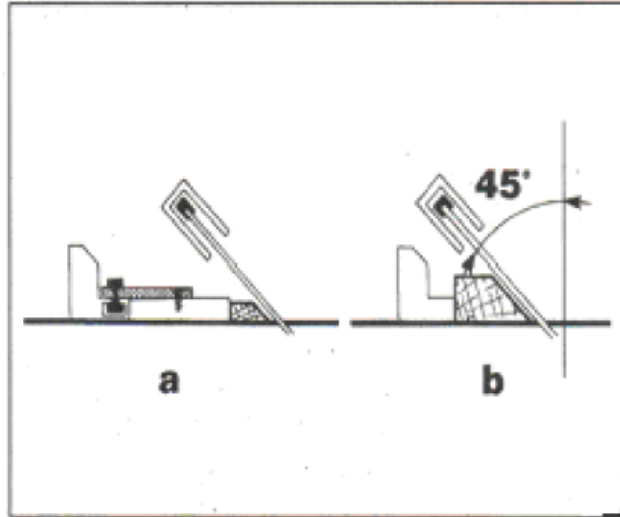

Fig. 18
3. Secure longer workpieces to prevent flipping after cutting, using a table extension (Fig. 18).